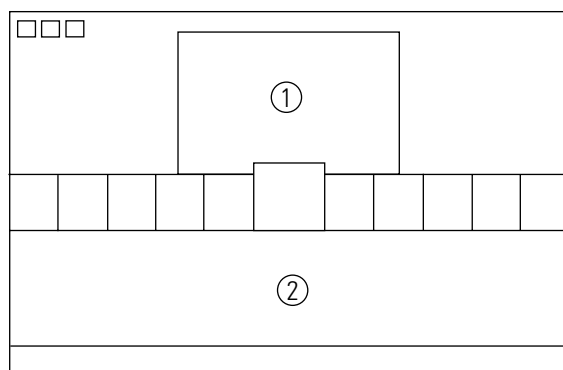

Fig. 4-4
1. Set SBT to 1.2 fL in the Factory Service Mode with using CA100. See Fig. 4-4.
1. Set SCT to 50FL(13V : 60FL) in the Factory Service Mode with using CA100. See Fig. 4-4 .